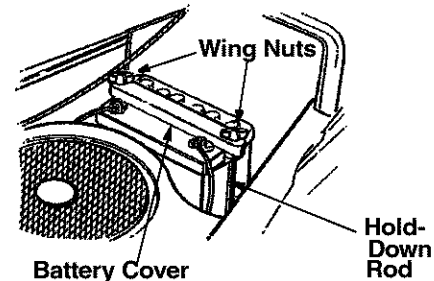

Figure 17
- Place the battery cover in position over the hold-down rods. Secure with wing nuts. See Figure 17.